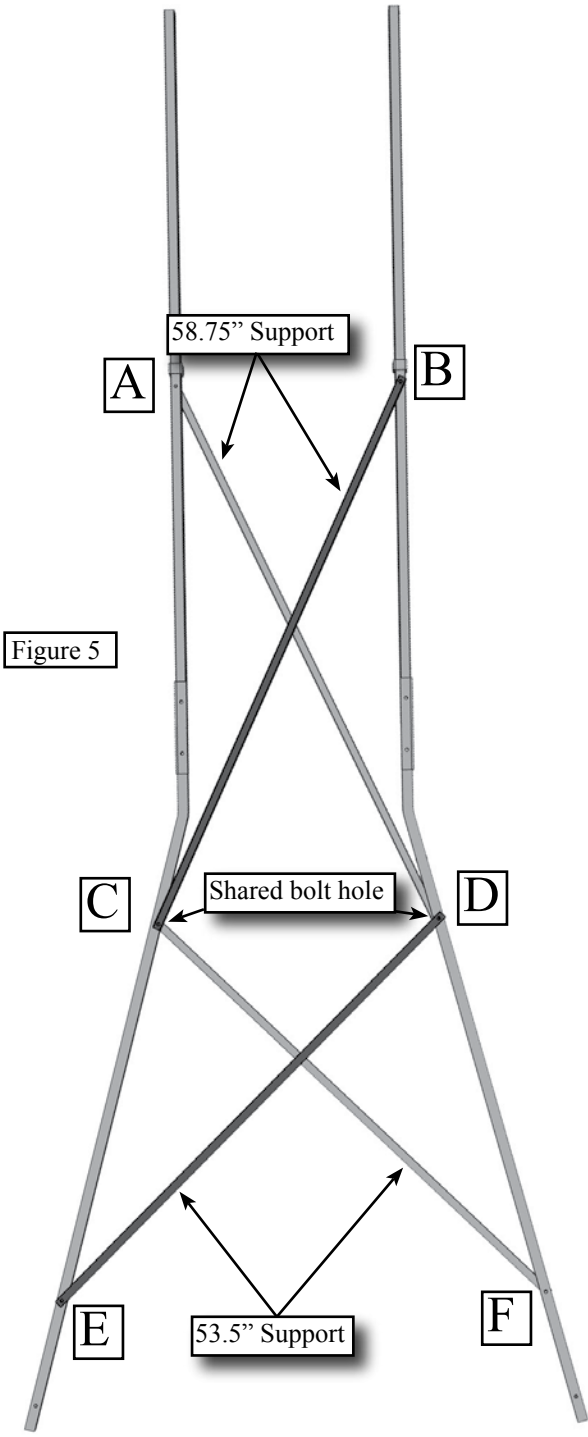

Figure 5
**Your Finished Support Assembly should look like Figure 5.**